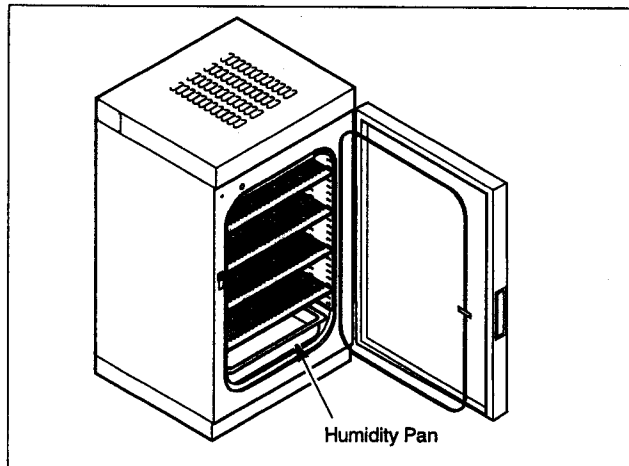

Figure 7. Humidity Pan
2. Fill the humidity pan with cold water and place it in the bottom of the chamber (refer to Figure 7 on page 7); then press **▲** to continue.